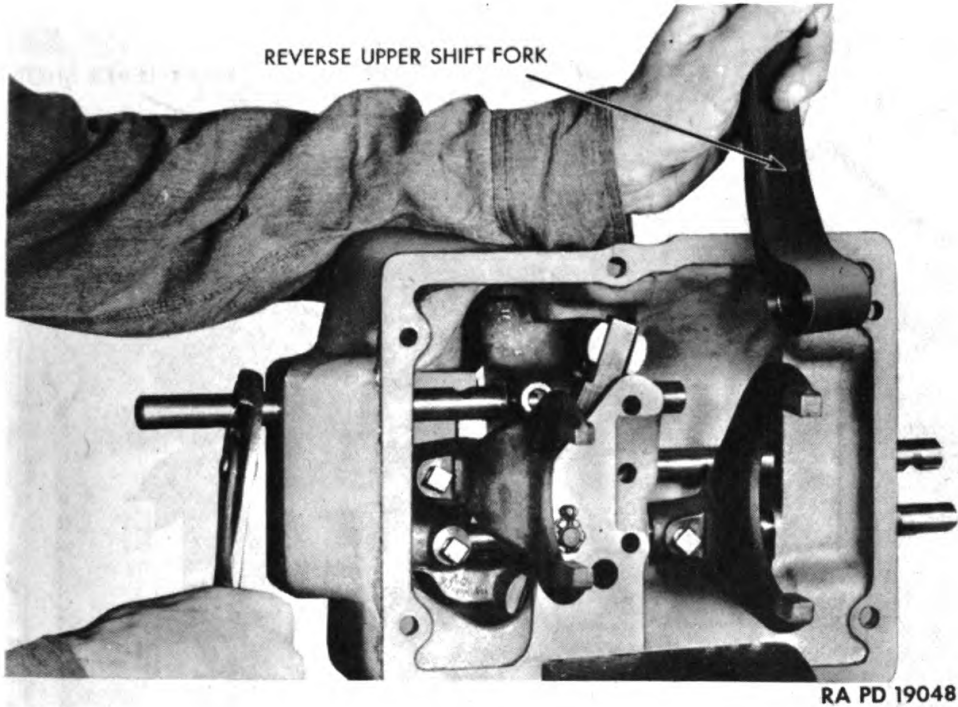

Figure 126 — Removing Reverse Speed Upper Shift Fork
(1) **REMOVE REVERSE SPEED SHIFT ROD, BRACKET, AND FORK.** NOTE: *This rod is the shortest of the three.* Remove lock wires from shift fork and shift bracket set screws. Remove set screw from reverse upper shifter fork. Drive shift rod out through front of housing, removing small expansion plug. Remove reverse upper shift fork from housing (fig. 126). Continue removal of shift rod until shift rod bracket is free from rod (fig. 127). NOTE: *Do not lose reverse shift bracket lock ball (fig. 128).* Remove reverse shift bracket, ball, and relay lever shoe from housing (fig. 128). Remove reverse shift rod poppet ball and spring (fig. 129). Remove